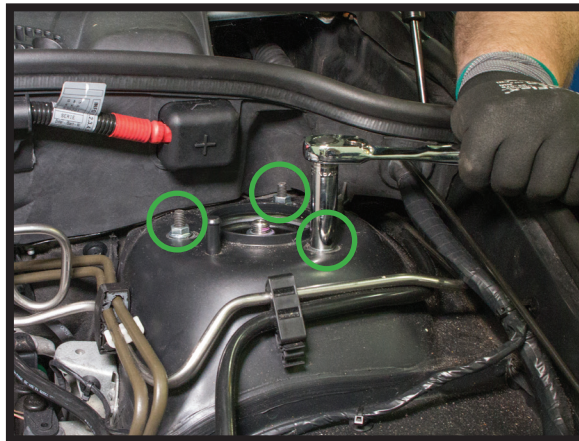

FIGURE 25
7. OPEN THE HOOD AND INSTALL THE THREE (3) UPPER MOUNT NUTS. (FIGURE 25)